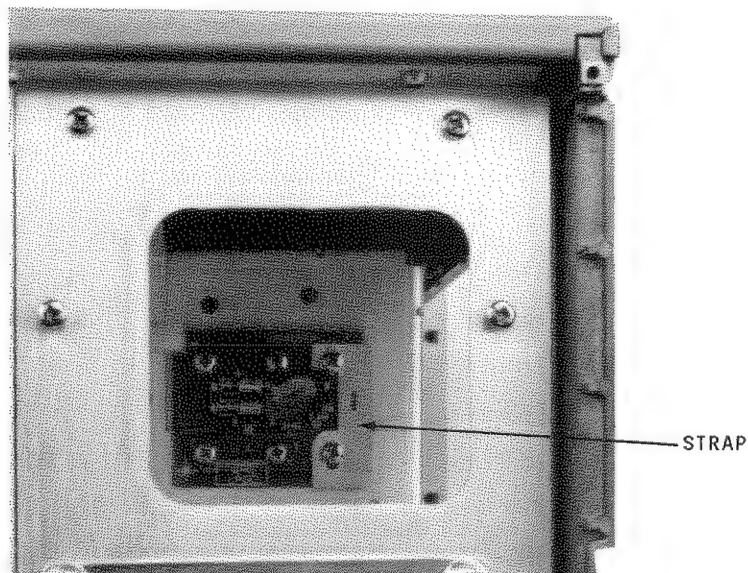

Figure 19. Floating User Side Ground (GUARD).
- b. Locate and remove the cover above the fan screen to expose the system side access compartment. See Figure 19. This compartment contains a small PC board and attached strap that isolates GUARD from chassis ground when removed.